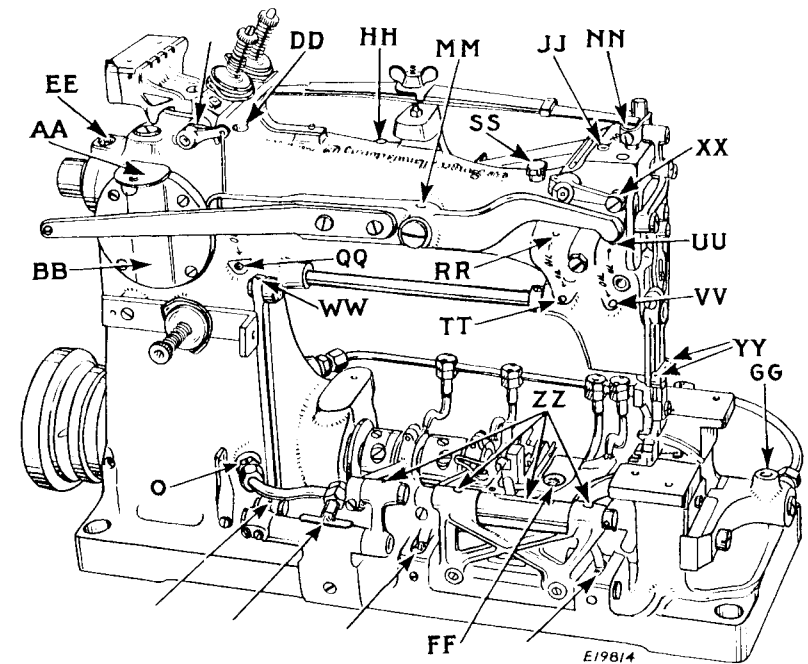
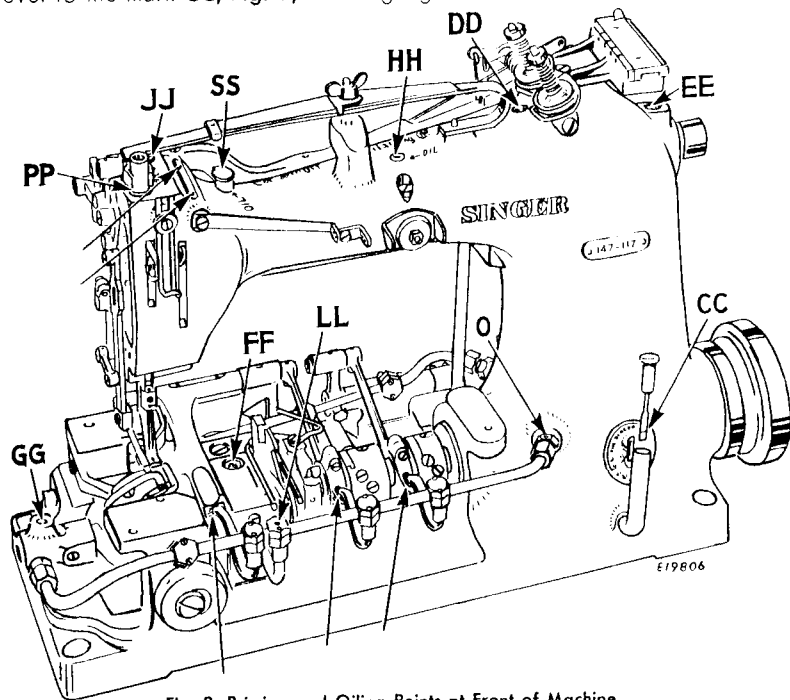
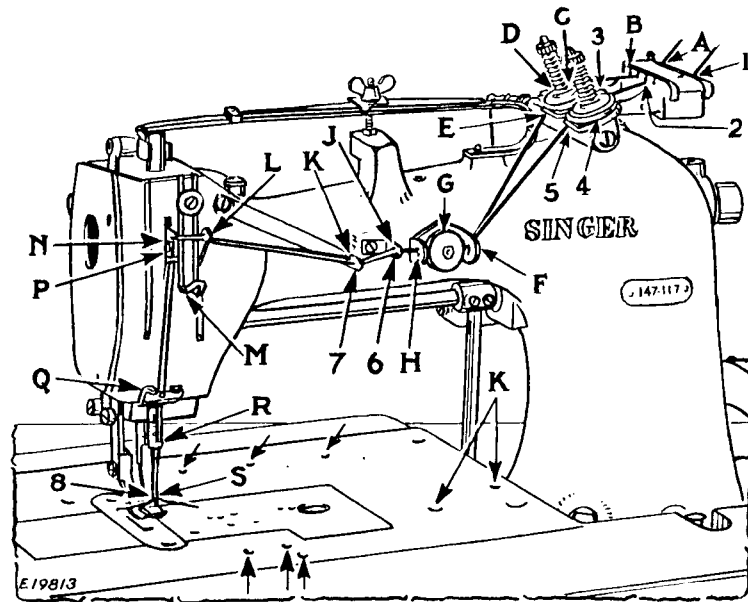

Fig. 2. Priming and Oiling Points at Rear of Machine
Fig. 3. Priming and Oiling Points at Front of Machine
Fig. 4. Threading the Needles
**NOTE:** It is not necessary to remove the work plate for the first servicing or subsequent oiling of these machines. Before oiling, merely remove the right hand slide plate. The work plate and the throat plate are removed in Figs. 2 and 3 for purposes of illustration only.
1. Lift and turn aside the cover **AA**, Fig. 2, and apply oil to filler **BB**, Fig. 2, until the oil stands at the mark **CC**, Fig. 3, on the gauge. **The oil must be maintained at this level.** After applying oil to the filler, turn the cover to closed position.
2. Saturate the wicks at **DD**, **EE**, **FF**, **GG**, **HH** and **JJ**, Figs. 2 and 3 and at **KK**, Fig. 4.
3. Apply oil to all oil holes or troughs marked "OIL" and at all other places indicated by unlettered arrows in Figs. 2, 3 and 4.
4. Fill the main oil pipe to **overflowing** through the oil hole **LL**, Fig. 3. This is **important**, as it primes various oil wicks.
5. Apply a drop of oil to **MM**, Fig. 2, for the foot lifter lever, and at **NN**, Fig. 2, where the presser bar passes through its bushing. Apply a drop of oil at **PP**, Fig. 3, where the needle bar passes through its bushing. Apply a few drops of oil at the points **QQ**, **RR**, **TT**, **UU**, **VV**, **WW**, **XX**, **YY** and **ZZ**, Fig. 2.
6. After a machine has been running at a moderate speed for approximately five minutes, stop it and let it stand idle for a few minutes. Then check the oil in the reservoir and, if necessary, add sufficient oil to bring the oil level to the mark **CC**, Fig. 3, on the gauge.
1. Apply oil to the filler **BB**, Fig. 2, as instructed in step 1 on page 4. Never permit the level of the oil to become lower than  $\frac{1}{4}$  inch below the mark **CC**, when the machine is at rest.
2. Fill the oil cup **SS**, Fig. 3, twice daily.
The letter "o" marked on oil pipe couplings **O**, Figs. 2 and 3, must always be at the top. This will insure that the oil spoon, attached to the inner end of each coupling, is open-side up.
See Fig. 4.